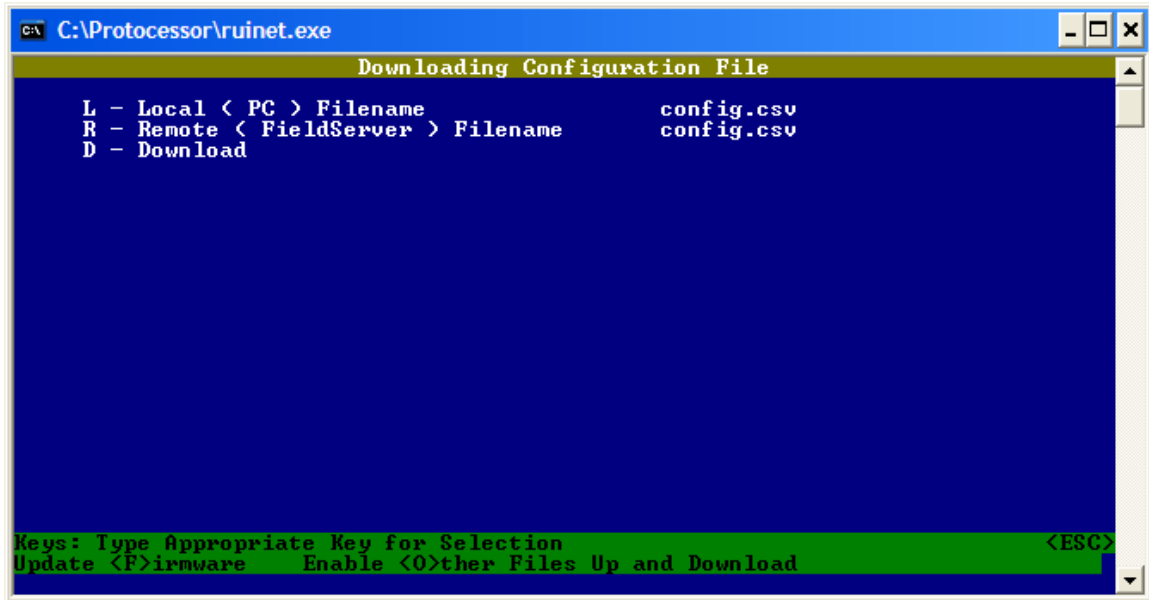

Figure 9: RUINET Download Screen
- 5) Back in RUINET, press 'Escape' to return to the Main Menu. Press 'D' to choose (D)ownload Configuration. Press 'D' again to begin the download (see Figure 9). This downloads the updated configuration file (*config.csv*) from the computer to the bridge. When the download is complete, press 'escape' twice to return to the Main Menu.